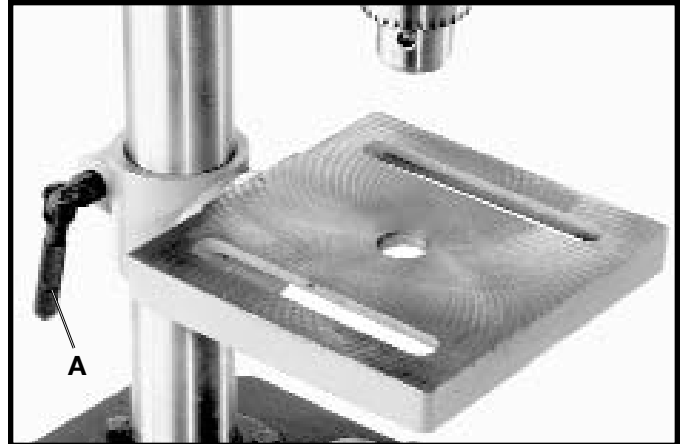

Fig. 20
1. The table can be raised or lowered on the drill press column by loosening the table clamp handle (A) Fig. 20. Move the table to the desired position on the column and tighten table clamp handle (A).